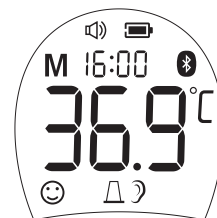

Figure 8
- The thermometer will automatically memorize the last 30 temperature readings. Each memory also records the measurement date/time/mode icon. Each time the **Button** is pressed, the screen displays past readings that correspond with a number 1-30. The number 1 reflects the most recent reading, while the number 30 reveals the oldest reading stored in memory. (See Figure 8)